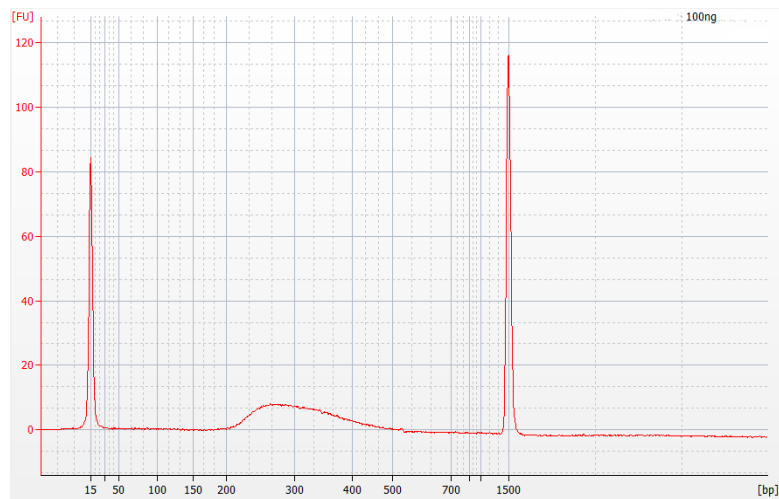

Figure 5 DNA 1000 Assay analysis of amplified library DNA prepared using the 100-ng DNA input Sample Preparation protocol.
- 4 Verify that the electropherogram shows a distribution with an average DNA fragment size of approximately 250 to 275 bp. A sample electropherogram is shown in Figure 5.